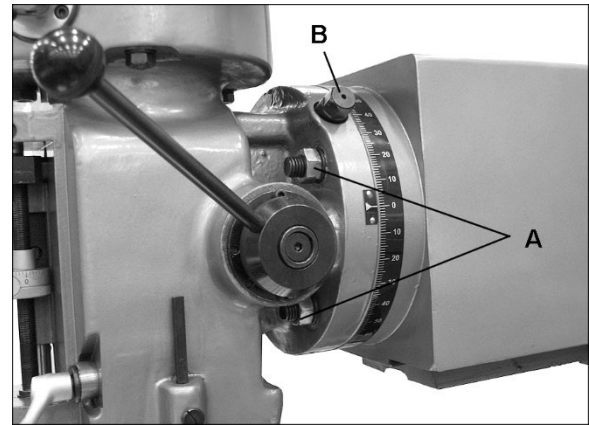

Figure 9-1
1. Loosen four large hex nuts that secure mill head to ram adapter (A, Figure 9-1). One-quarter (1/4) turn should be sufficient to allow head to move.
2. Turn worm nut (B, Figure 9-1) to tilt head left or right as required. Use scale on ram adapter to set desired angle.